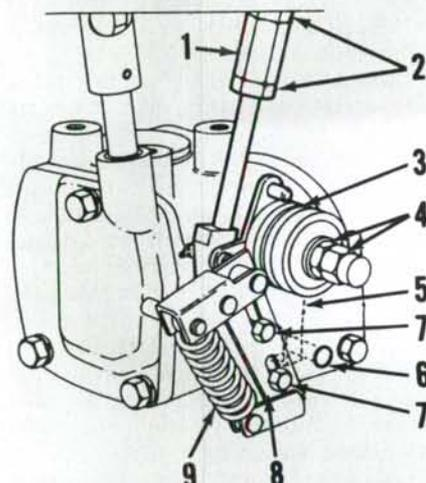

Fig. 248—View of linkage control lever connecting rod adjustment point.
ting. Move linkage control lever forward until it is 3 mm (1/8 inch) from end of quadrant slot. Loosen jam nuts (2—Fig. 248) and turn adjuster (1) until friction lever (5) contacts pin (6). Tighten jam nuts securely against adjuster (1).